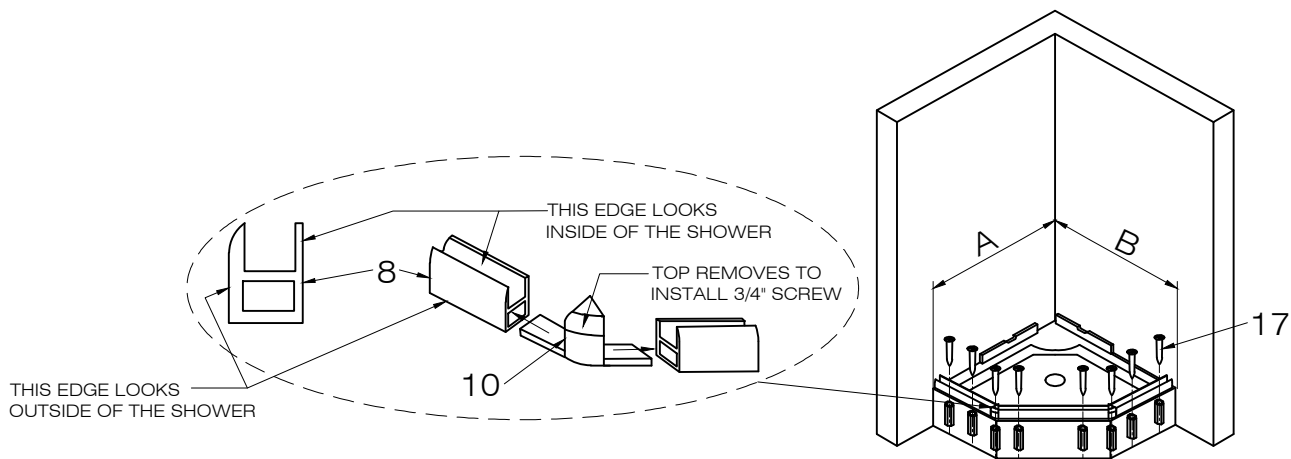

FIG.2
2. Remove top of the corner joint. Slide the bottom corner joint (2 pieces) (#10) onto the bottom rail (3 pieces) (#8). [SEE FIG.2]